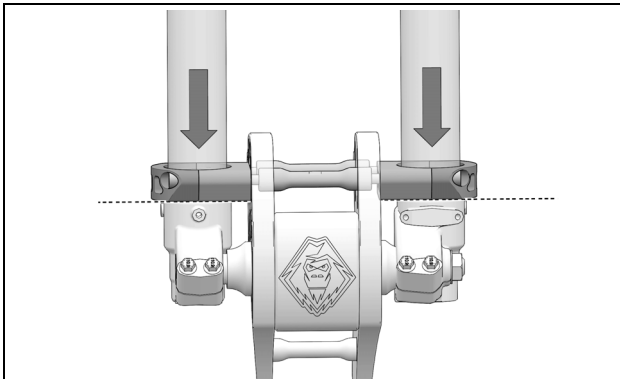

Figure 13
- Apply pressure on clamps on both sides of the spindle to lower them as much as possible on the forks. Tighten clamp assembly bolts to 25 Nm (18 lb-ft) of torque. See Figure 13.